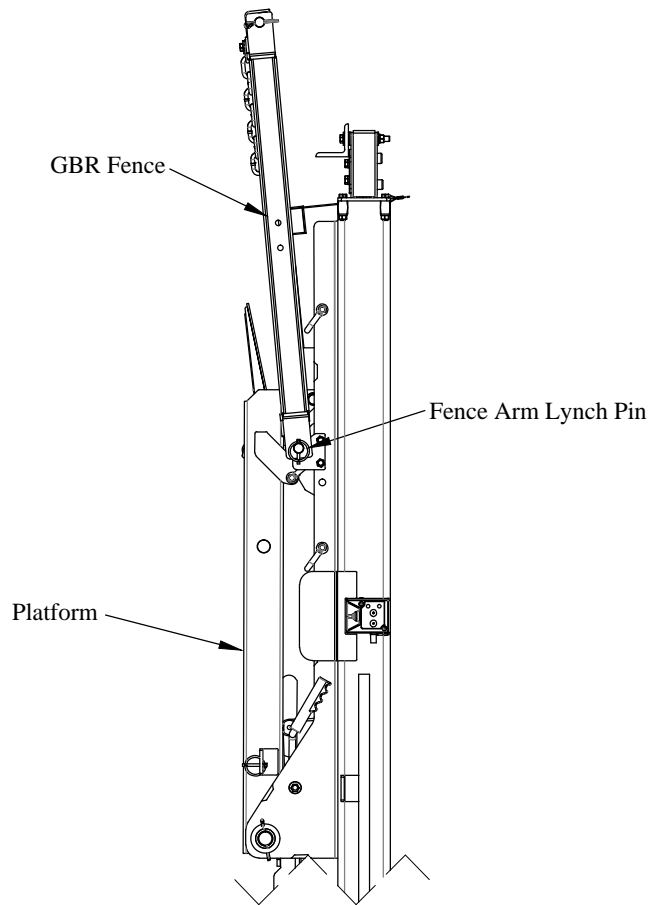

Figure 11: GBR Fence Stored.
- Step 1. Remove the Fence Arm Lynch Pin (Figure 11).
- Step 7. Put the GBR Fence back into the Travel Position by reversing Steps 1-5 (Figures 11 & 12).